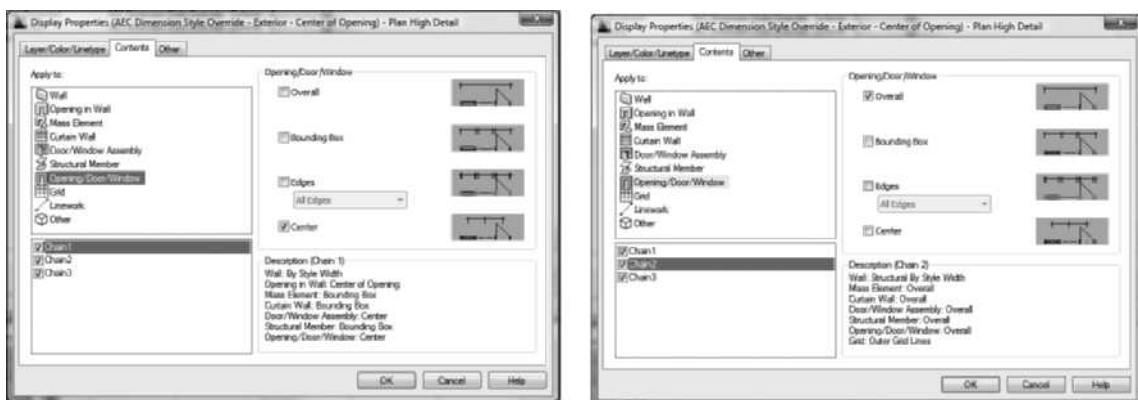

FIGURE 11.12 Contents tab of an AEC Dimension Style
21. Choose the Contents tab as shown in Figure 11.12. The Contents tab is the most significant tab because it lists the contents to be included in each of the chains.